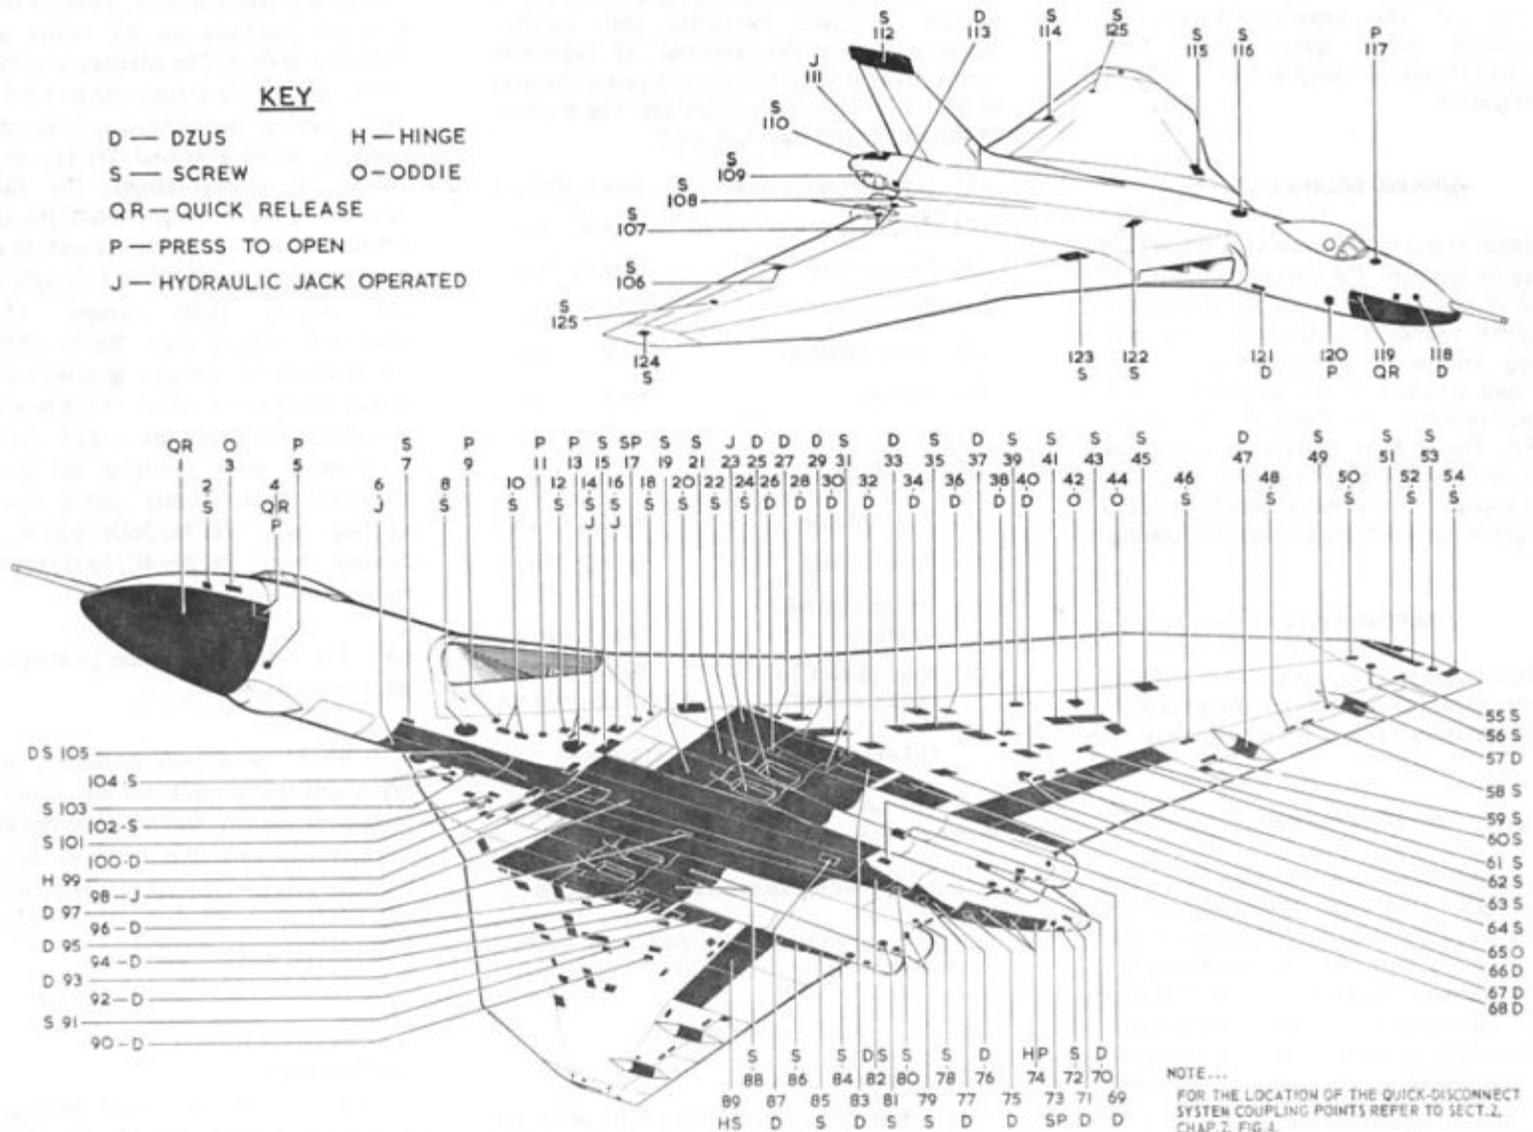

Fig. 1 Access panels
3. Removable access panels and servicing doors are provided throughout the structure: the position of such panels is shown in fig.1.